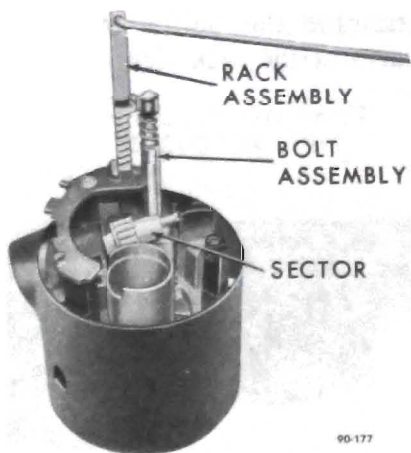

Figure 90-114 Removing or Installing Rack and Lock Bolt
17. Remove the rack and lock bolt. See Figure 90-114.